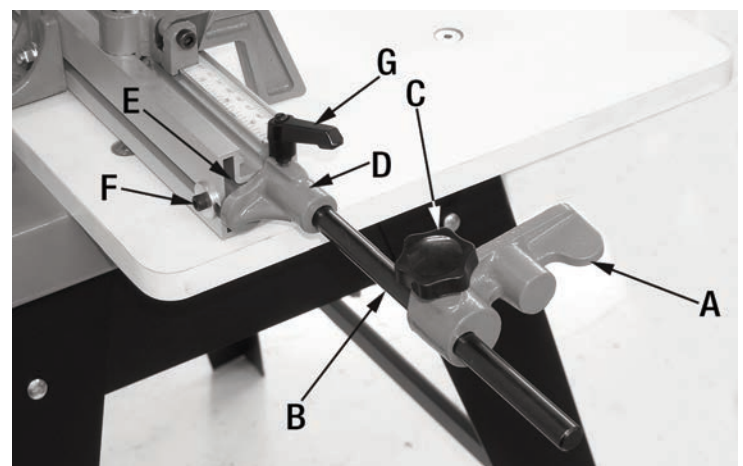

FIGURE 8
1. Attach the extension work stop (A) Fig.8 to the stop rod (B) and tighten lock knob (C). Slide the support block (D) into the fence slot (E) and tighten the cap screw (F). Slide stop rod (B) into support block (D), set the distance of the stop rod (B) and tighten the stop rod lock handle (G).